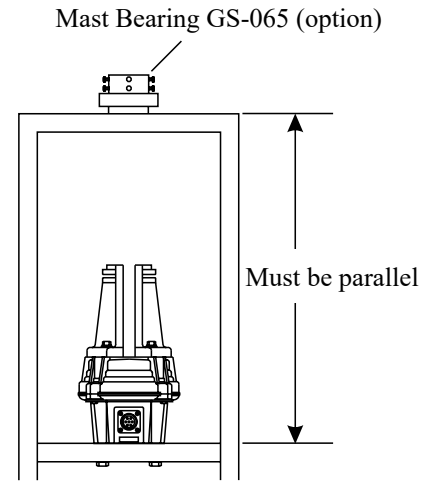

Figure 3
3. If a thrust bearing (such as the optional Yaesu model GS-065) is to be utilized, mount it on the top of the tower (see Figure 3) using the supplied hardware.